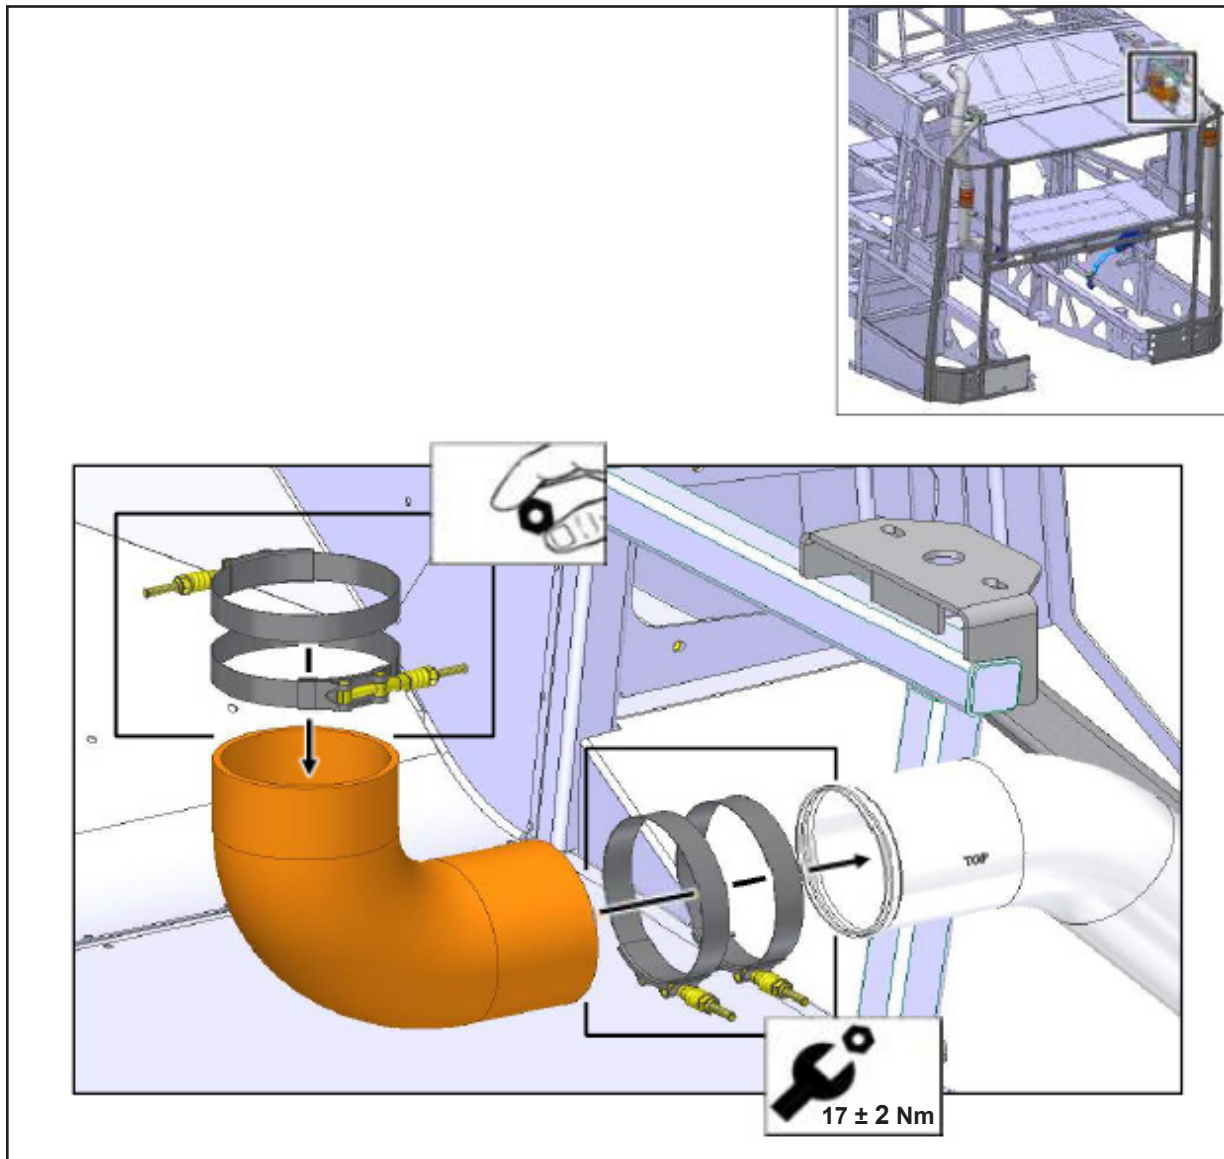

Figure 4 - Installation of Elbow in CAC Pipe
- 1.7. Reuse the clamp N12883, torque at  $17 \pm 2$  Nm (see figure 4).